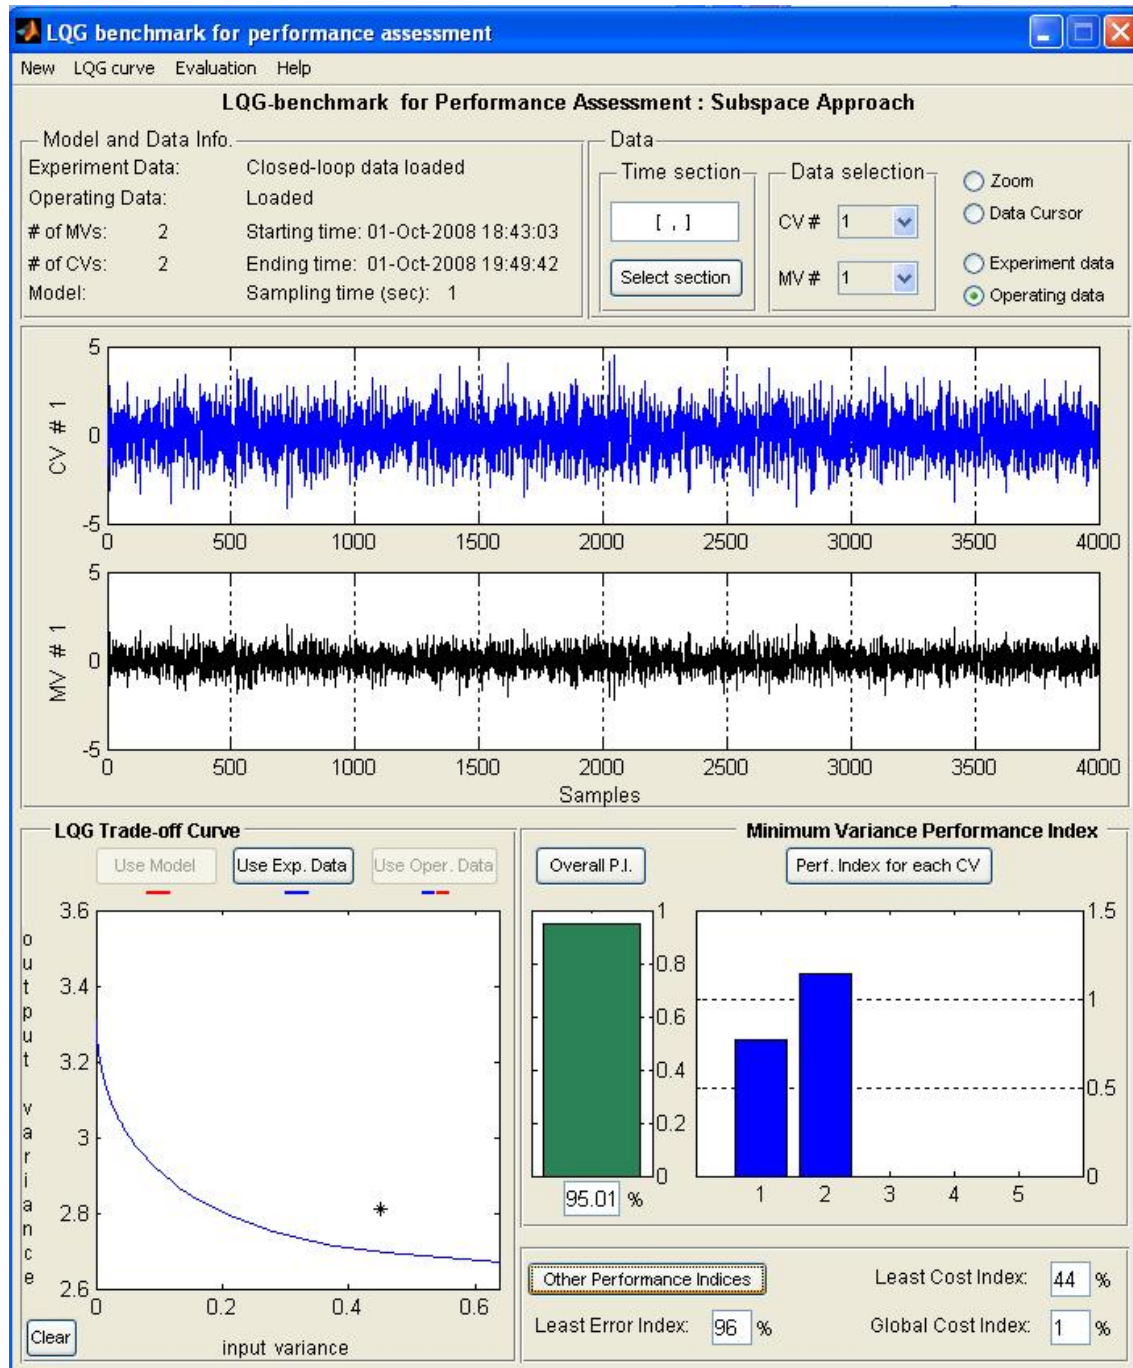

Figure 7: Performance indices obtained for a MIMO process
- 13) Upload a set of closed-loop routine operating data. The corresponding input-output variance point (actual control operating point) will appear on the figure as in Figure 7.
- 14) At this time you can have all the performance indices. To get the overall minimum variance performance index press the 'Overall P.I.' button in the 'Minimum Variance Performance Index' panel. To find MVC index for each controlled variable, press 'Perf. Index for each CV' button in the 'Minimum Variance Performance Index' panel. There are 3 more indices available in the 'Other Performance Indices' panel. Please see Figure 7. For the definitions of different indices, please see "Detailed Instruction" section of the manual. Note that if either the curve has not been generated yet or operating data has not been uploaded (no actual point), you will receive an error message box when pressing any of the performance buttons.